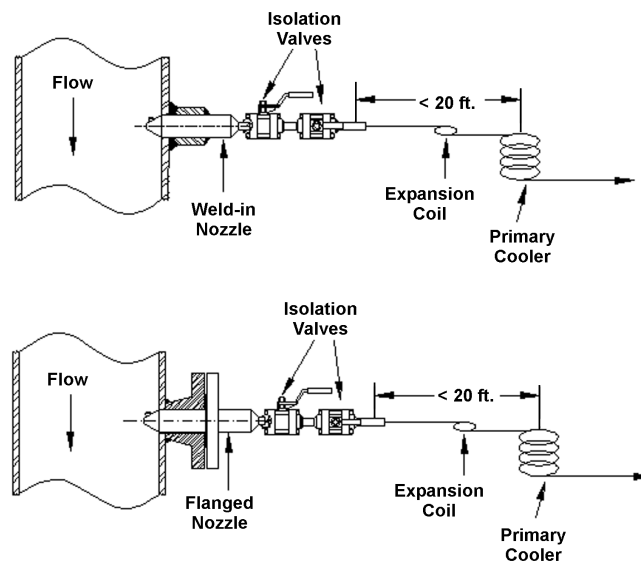

Figure 1. Installation of weld-in Nozzle (top) and flanged Nozzle (bottom)
13. The sample tubing should form a coil (see Figure 1) or a series of bends after the isolation valves, to allow for any movement or expansion of the pipe.